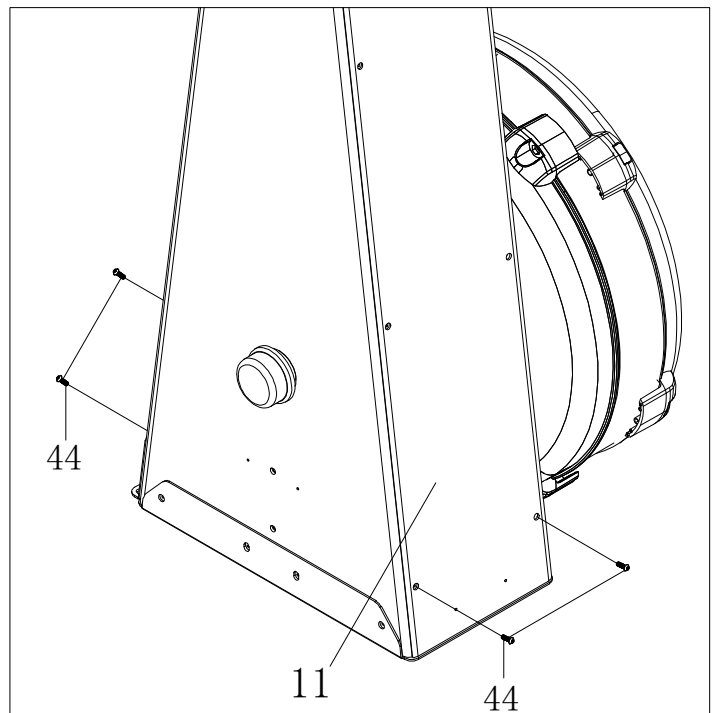

Fig. 6
1. Remove the four preassembled bolts (44) from the main frame (11) (Fig. 6).